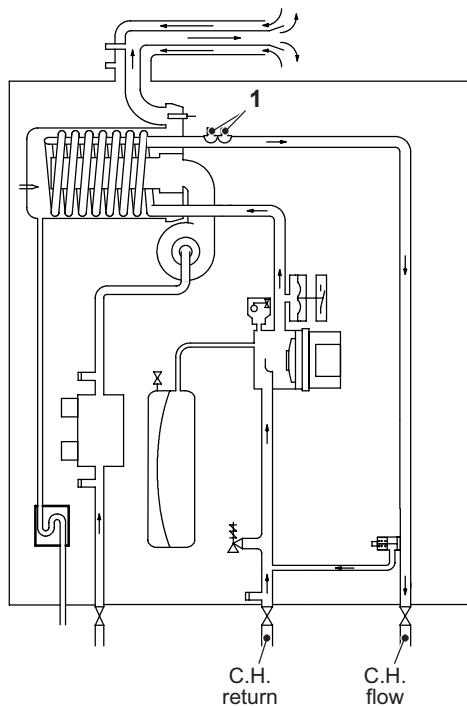
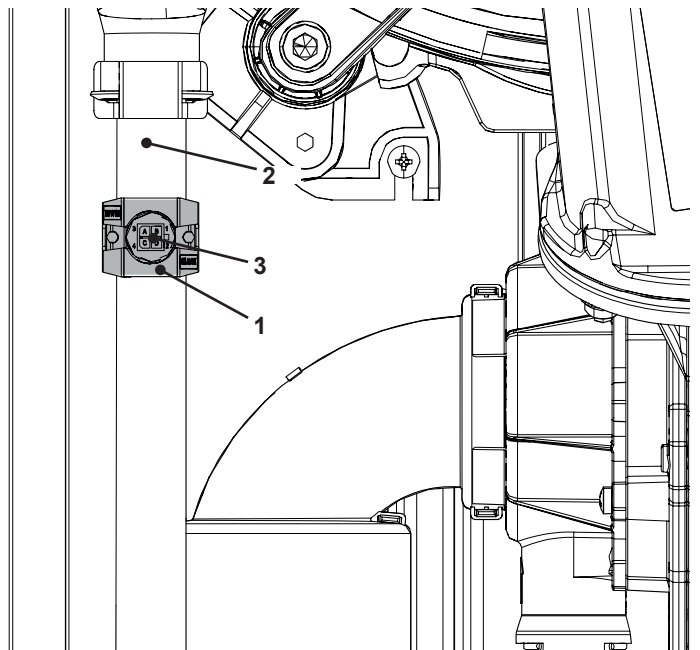

Figure 12.2
Figure 12.3
On the boiler there are two temperature probes. One on the output of the primary condensing heat exchanger (NTC heating delivery probe - NTC maximum temperature) "1" in Figure 12.2 and Figure 12.3.
- 2 Remove the electric connector "3" and the NTC probe "1" (Figure 12.3).